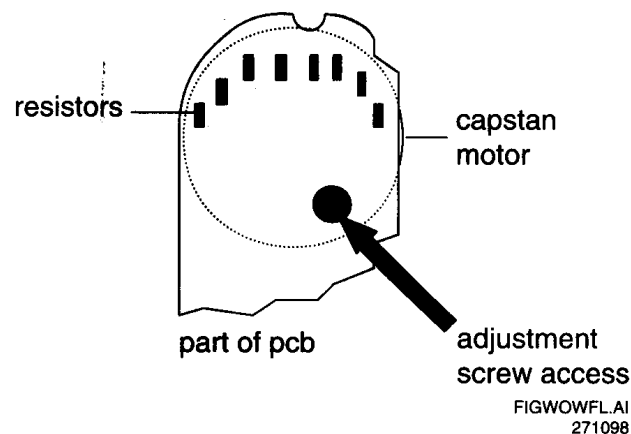

Figure 10
- This screw can be reached via the hole in pcb pos. 86 (see figure 10).